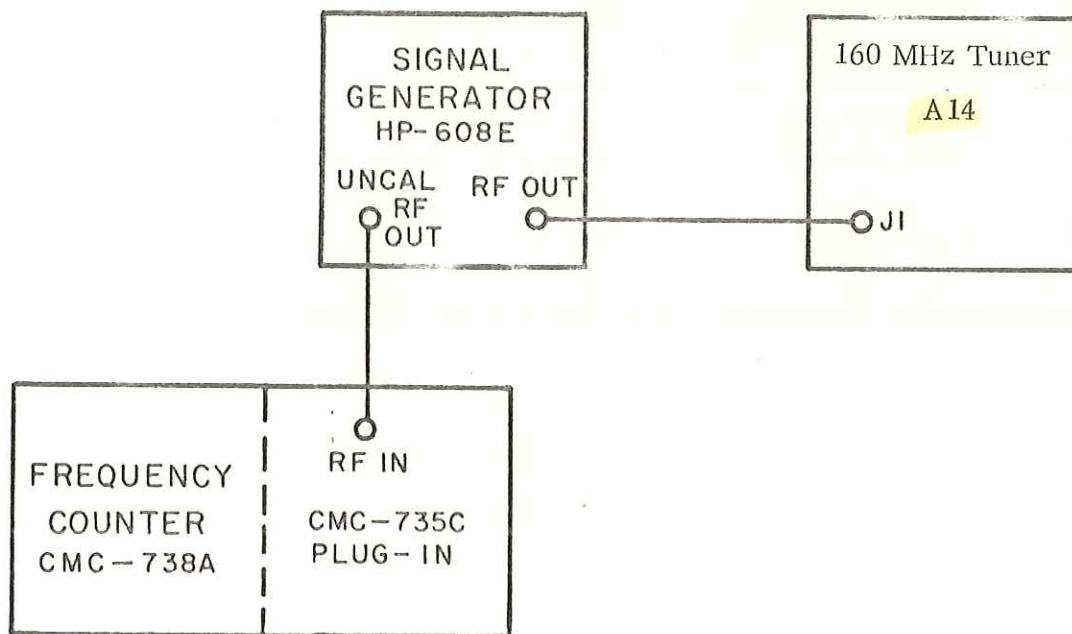

Figure 4-21. Test Setup, 160 MHz, RF and Sweep Circuit Alignment
- (1) Set the SWEEP WIDTH control maximum CW; GAIN maximum CW.
- (2) Connect the equipment as shown in Figure 4-21.
- (1) Connect the equipment as shown in Figure 4-21. Adjust the signal generator controls for a 10 μ V 160 MHz CW output.
- (2) Set the SWEEP WIDTH maximum CW and the GAIN control for nearly full screen vertical deflection of the 160 MHz pip.
- (3) Tune the signal generator from 150 to 170 MHz and note the point of maximum vertical pip deflection. At the point of maximum deflection set the GAIN control for a full screen pip.
- (4) Tune the signal generator over the 150-170 MHz range while observing the CRT screen and note the point of minimum vertical pip deflection. At that frequency, increase the signal generator output to 14.1 μ V (3 dB). The resulting vertical pip deflection should be at least full screen. If not, adjust A14C13 and A14C23 for a compromise over the 150-170 MHz range which will provide the 20 MHz bandwidth at the -3 dB points.
- (5) If the preceding adjustments do not obtain the required 3 dB bandwidth, A14C25 can be peaked at the frequency of minimum deflection as noted in step (4). If this adjustment is required, return the signal generator to 160 MHz and re-center the pip on the CRT screen with A14C36 and then repeat step (4).
- (1) Turn the MARKER switch on. Connect the equipment as shown in Figure 4-21. Set the signal generator output level to 1 mV and tune the generator to approximately 201.4 MHz. Tune the signal to center the signal pip over the 160 MHz marker and turn the MARKER switch off.
- (2) Set the signal generator output level for a half-screen pip deflection and adjust A14C2 for minimum deflection. Adjust the GAIN control as necessary to obtain the maximum image null.
- (1) Connect the equipment as shown in Figure 4-21. Turn the MARKER switch ON.
- (2) Tune the signal generator to 170 MHz with a 10 μ V CW output signal. Adjust the GAIN control for a convenient 170 MHz pip deflection.
- (3) Adjust A18R11 (SWEEP CAL) to move the 170 MHz pip to the right most graticule line on the CRT screen. Re-center the 160 MHz marker with A18R5 (BIAS). Repeat until the 170 MHz pip and 160 MHz marker are in the proper positions.
- (4) Tune the signal generator to 155 MHz and adjust A17R26 (HORIZ NOM LIN) to place the signal pip halfway between the center and left-most graticule lines.
- (5) Tune the signal generator to 150 MHz and adjust A17R28 (HORIZ MAX LIN) to position the 150 MHz pip on the left-most CRT graticule line.
- (6) Repeat steps (2) through (5) until the width and linearity adjustments are correctly set. Turn the signal generator output level to minimum. Turn the MARKER switch off.